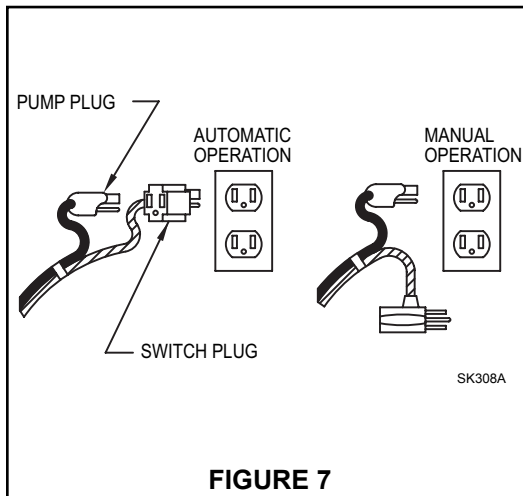

FIGURE 7
5. Insert the piggyback plug from the switch into a standard grounded outlet of proper voltage. For automatic operation, plug the pump directly into the piggyback plug. (See Fig. 7.) Pump can be manually operated by bypassing the piggyback plug.